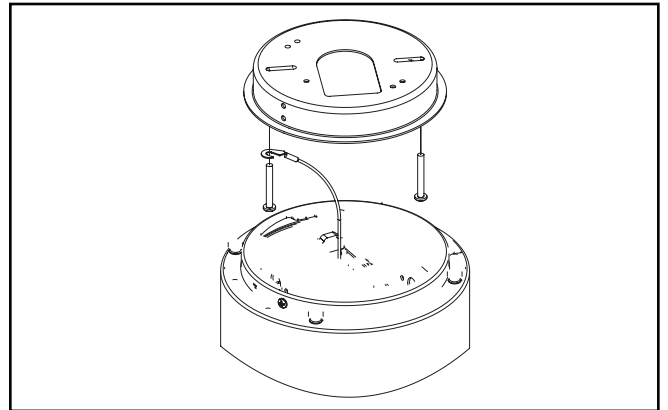

Figure 4.
4. Attach tether under one Junction Box mounting screw. (Figure 4.)
3. Attach rear wall mount tether to splice box mounting screw, like what is shown in Figure 4.